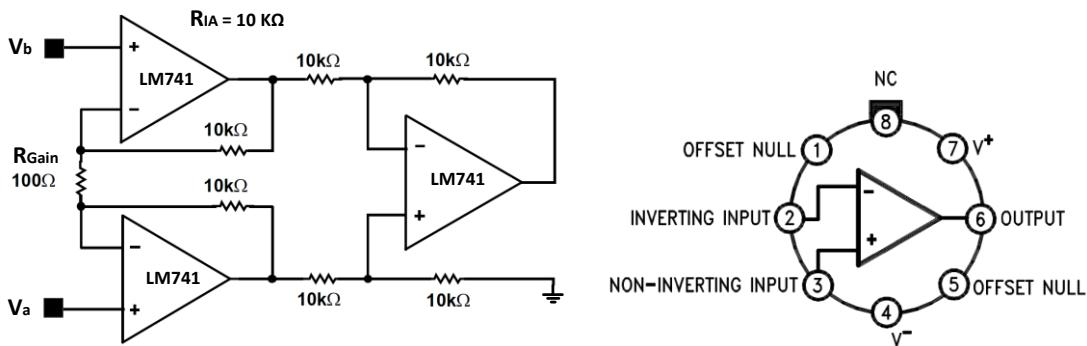

Fig. 3. (Left) A custom instrumental amplifier using three op-amps and external resistors. (Right) Connection diagram of the LM741 operational amplifier.
In this part of the lab, we rebuild the ECG circuit by making an instrumental amplifier using three op-amps and seven external resistors (Figure 3) and then replacing it with AD620 amplifier. The biasing of the circuit is exactly the same as the ECG circuit #1 between the pins 7 and 4 of IC LM741. For convenience, the connection diagram of the LM741 amplifier is shown in Figure 3 (right).
1. (2 points) What are the reasons to use AD620 instrumental amplifier instead of the circuit shown in Figure 3?
4. (4 points) Calculate the gain of the instrumentation amplifier shown in Figure 3.